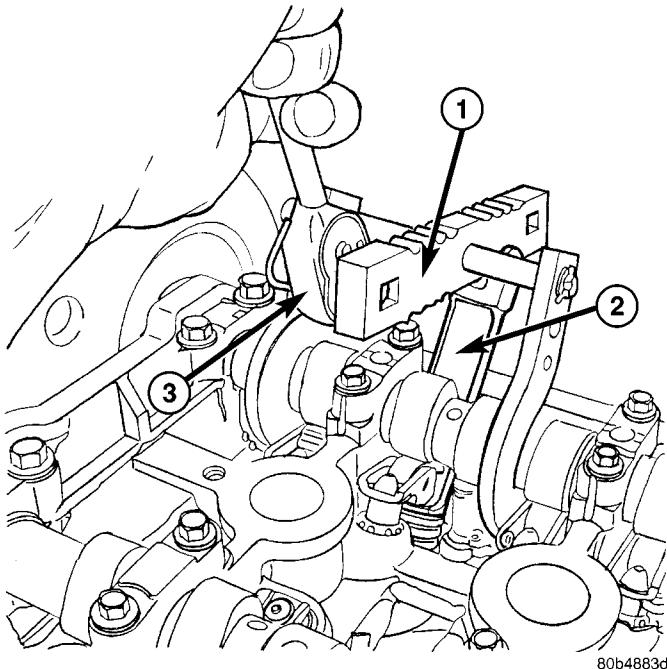

Fig. 38 Rocker Arm - Removal/Installation
(4) Using Special Tools 8215A and 8436 slowly depress valve assembly until rocker arm can be removed (Fig. 38).
(5) Repeat removal procedure for each rocker arm.
(1) Lubricate rocker arm with clean engine oil.
(2) Using Special Tools 8215A and 8436 slowly depress valve assembly until rocker arm can be installed on the hydraulic lifter and valve stem (Fig. 38).
(3) Repeat installation procedure for each rocker arm.